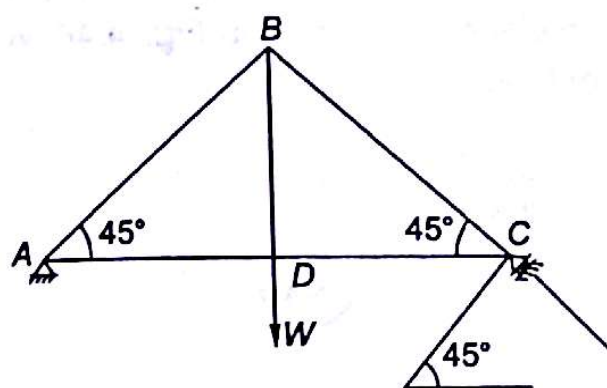

Fig. 4.37
4.8 A truss ABCD, hinged at end A is roller supported on inclined plane at C. Angle of inclination of plane is 45° . Load at joint D is W as shown in Fig. 4.37. What is the horizontal component of reaction at C?